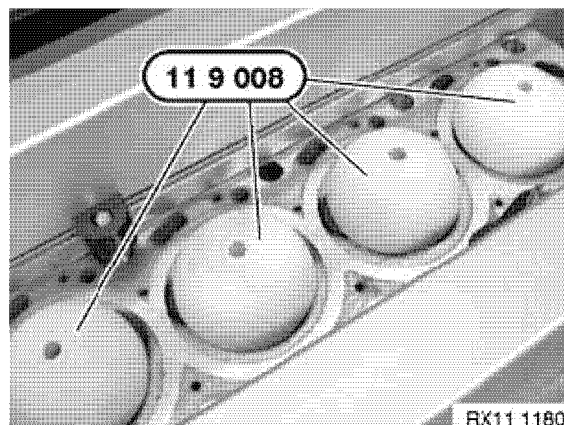

Figure 5-20
2. Put special tool OEM No. 11 9 008 with straight surface on combustion chamber side of cylinder head (Figure 5-20).